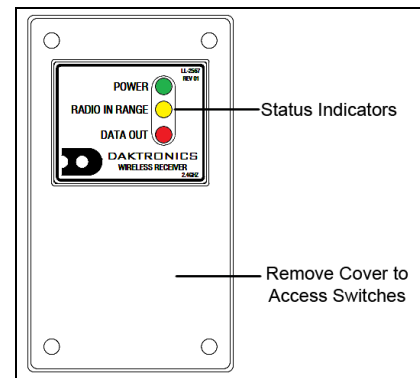

Figure 15: Radio Receiver w/ Cover
3. The radio receiver has a plastic cover with a window to view status indicators (**Figure 15**).